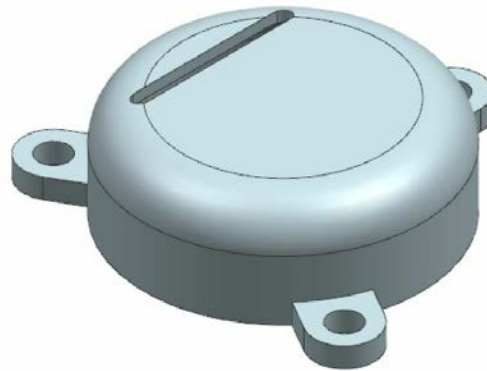

Figure 7-129 Model after creating the slot
5. Choose the **OK** button; the slot feature is created, as shown in Figure 7-129.